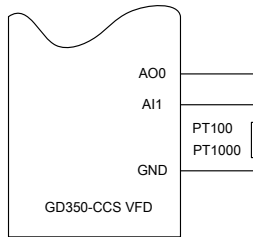

Figure 5-13 Wiring between analog terminals and PT100/PT1000
- Step 1 Connect PT100/PT1000 according to Figure 5-13.